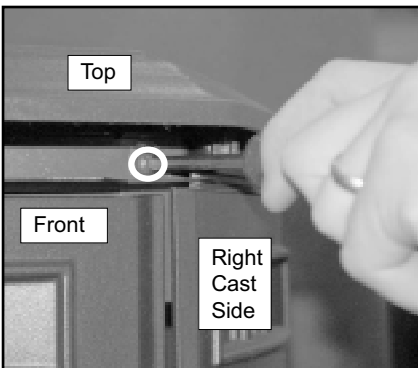

Figure 29.1
- Allow the appliance to completely cool down before pulling the cleaning rods. Turn the thermostat on and then immediately off to start the exhaust blower on its cycle time. It will pull fly ash out the exhaust instead of into the room. Open the cast front door to access the 2 cleaning rods. **See Figure 29.1 on page 29.**